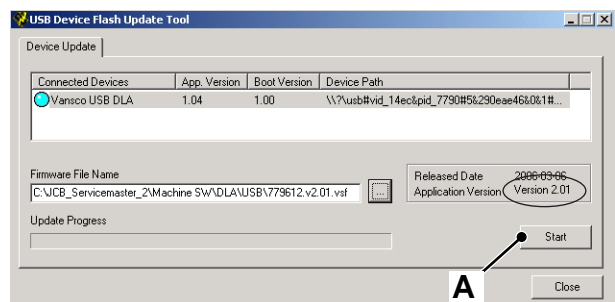

Fig 24.
- a Click the 'Open' button. The selected file appears in the 'Firmware File Name' field together with its release date and application version, for example 2.01. → Fig 24. \(M-48\)